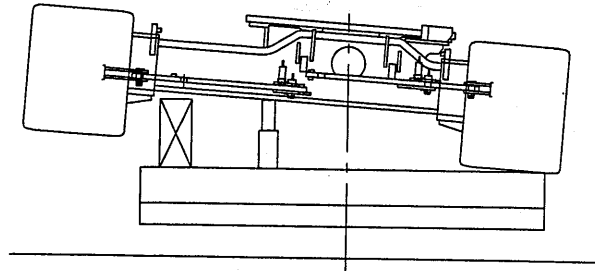

Fig. 11-11
- (4) Extend the side of crawler which has no fixing pins and place wooden blocks under the machine on the extended crawler side as far as possible from the center of rotation. (Fig. 11-11)